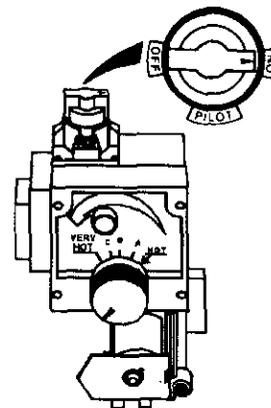

Figure 12
12. At arms length away, turn gas control knob counter-clockwise (↺) to the full "ON" position. **WARNING Do not use gas control knob to regulate gas flow.** (Figure 12, Page 25)